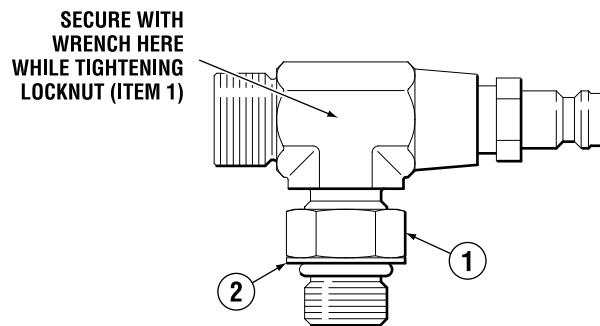

Figure 5-23. Re-orientable hose fitting.
1. Back off lock nut (item 1 in figure 5-23) counter-clockwise, until it stops.
2. Thread fitting into the cylinder port until the fitting washer (item 2) contacts the face of the cylinder port. Tighten hand tight. DO NOT USE A WRENCH.